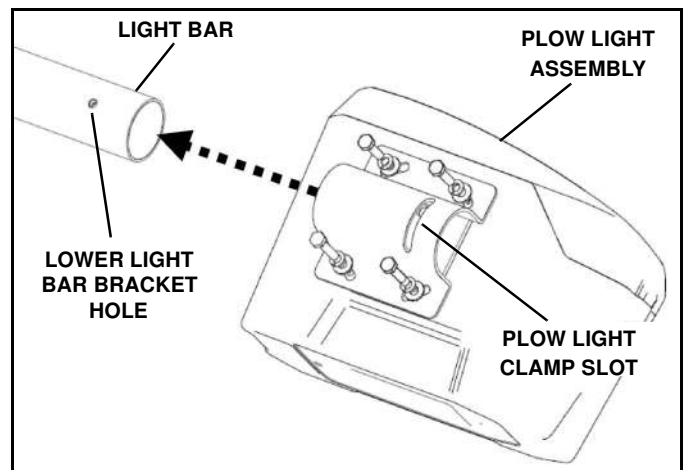
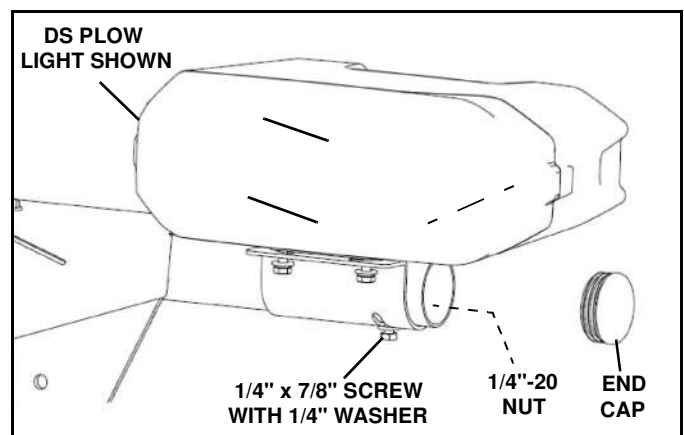

Figure 1-12
Figure 1-13
22. Slide the plow lights onto the respective ends of the light bar bracket, aligning the hole in the bottom of the bracket with the slot in the plow light clamp (See Figure 1-12).
23. Install a 1/4" x 7/8" screw with 1/4" washer through each clamp and light bar and loosely secure with a 1/4"-20 nut (See Figure 1-13).
26. Aim plow lights with plow in the fully raised position. Lock the lamps in the adjusted position by tightening four 1/4" x 7/8" horizontal adjustment screws and one 1/4" x 7/8" vertical adjustment screw and 1/4" nut securely (See Figure 1-12 and Figure 1-13).
Install an end cap in each end of the light bar (See Figure 1-13).